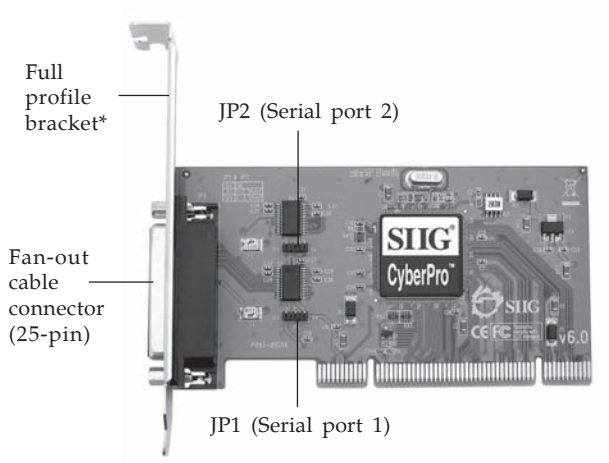

Figure 1. Layout
5. Set **JP1** and **JP2** jumper settings to the desired voltage only if your serial device needs additional power from the serial port. However, most serial devices do not require additional power. For more information see **Figure 1** on page 2. The jumpers can be removed if power is not required.